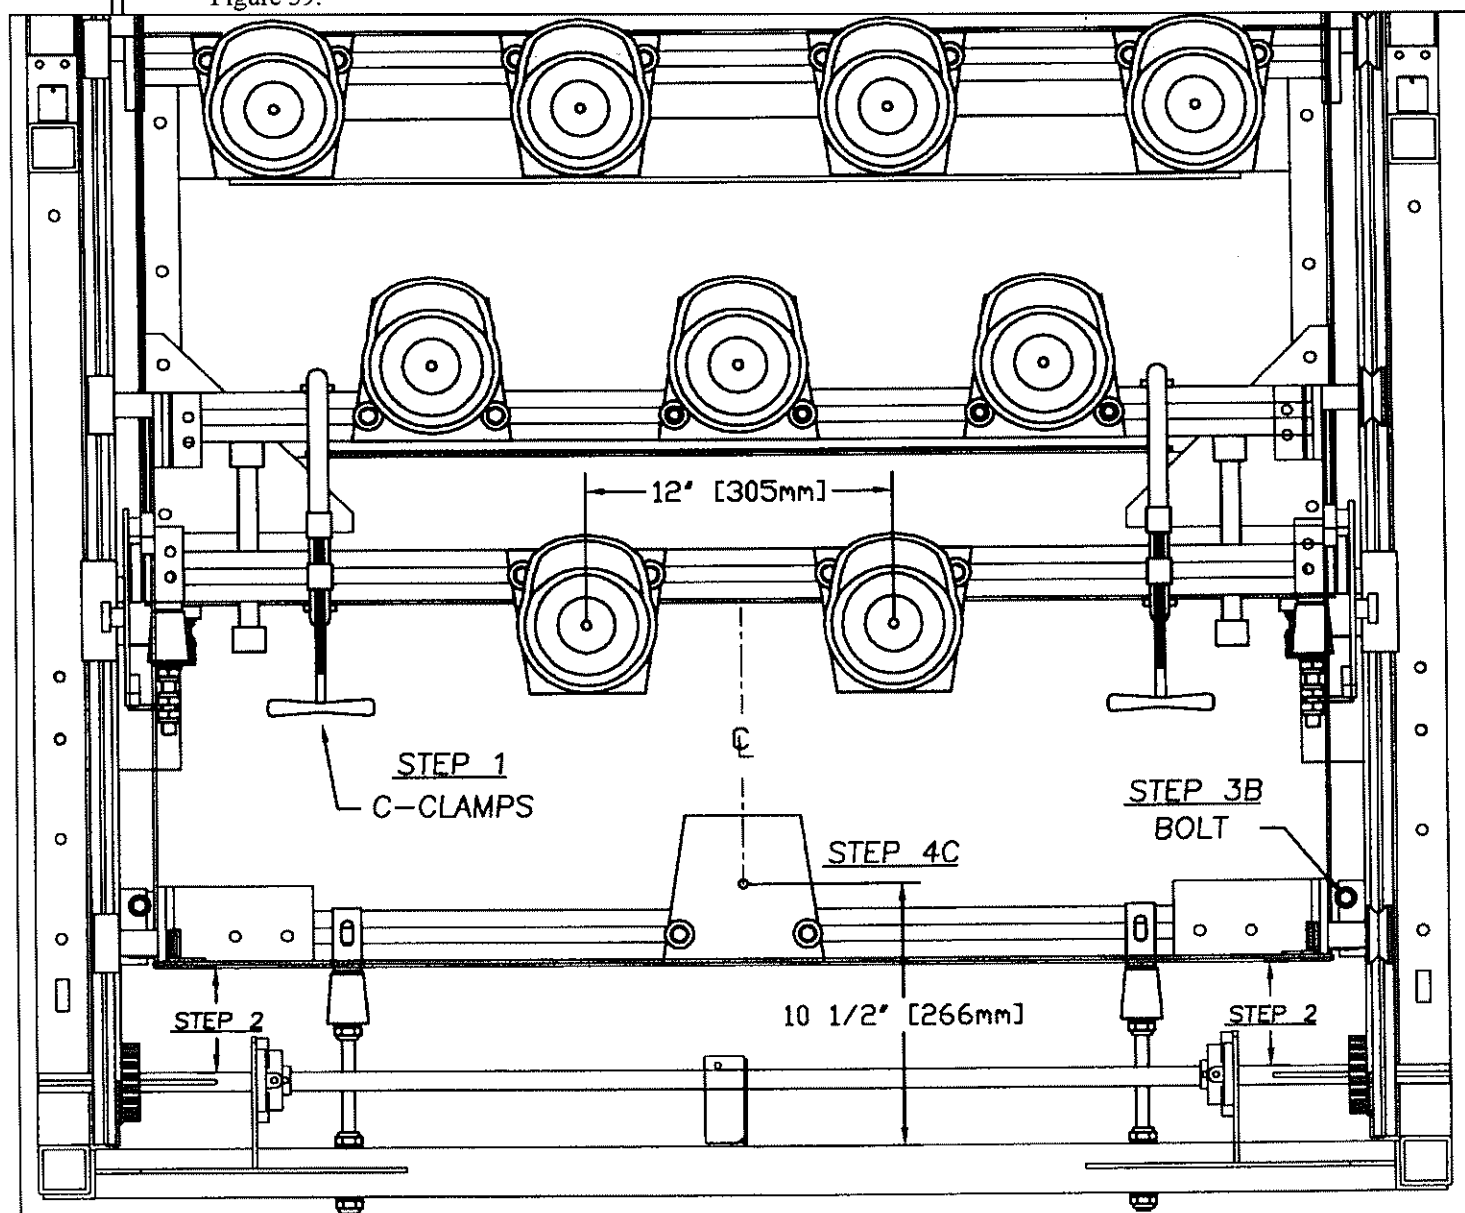
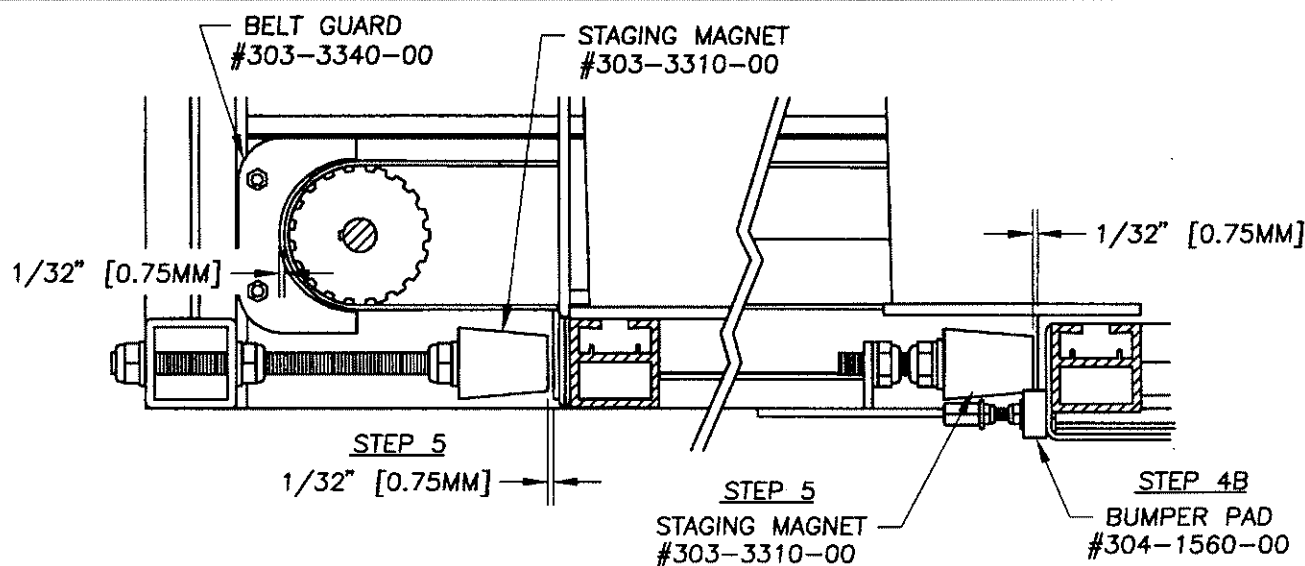

Figure 39
Figure 41
1. Join the drawer's two main components by using two large "C"clamps as shown in Figure 39.
2. Measure the distance from the front of the drawer to the drive shaft at both extremities as indicated in Figure 39 to ensure that they are parallel to each other. If they are parallel go to step 4, otherwise complete step 3.
4. Remove pin cup #1 (303-3020-00) and use the bumper pads (304-1560-00 shown in Figure 41) located on both sides of the drawer to position the drawer's frame assembly 10½ inches (266mm) from the frame as indicated in Figure 39.
5. Adjust the four staging magnets (303-3310-00) to obtain a space of 1/32" (0.75mm) as indicated in Figure 41.